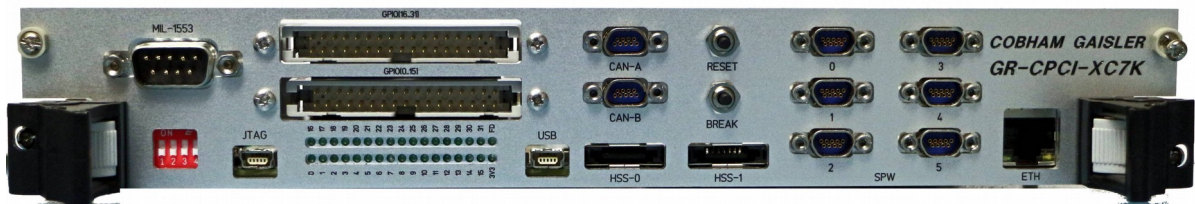

Figure 2-14: Front Panel GPIO connections
- connected to a header on the board to allow easy access for measurement This header, in turn can be connected with a short ribbon cable to a corresponding header on the front panel (Figure 2-14). A series protection resistor of 470 Ohm is included on each signal to provide a simple level of protection in the case of a short circuit at the front panel